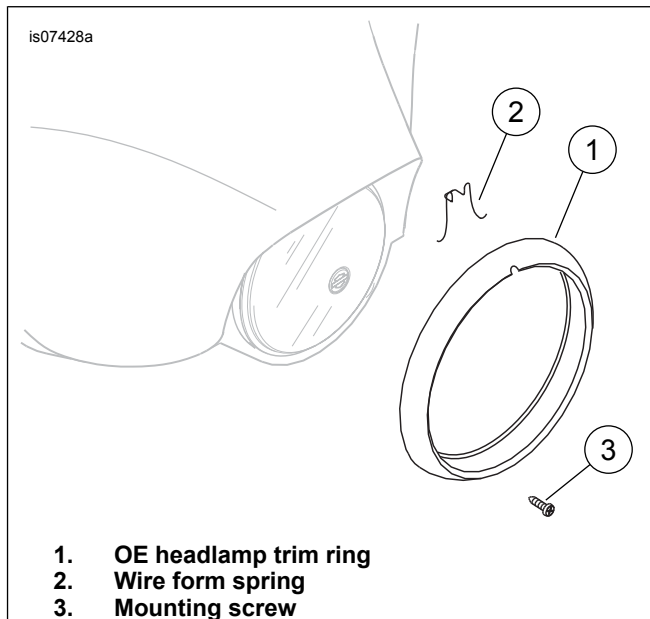
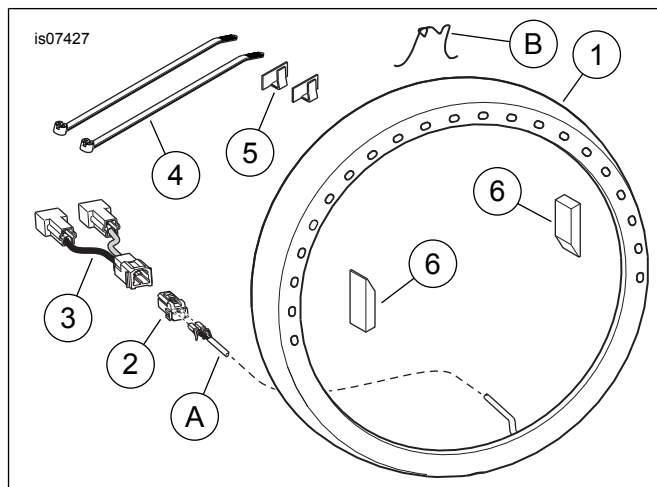

Figure 1. Remove OE Trim Ring (FLHT Shown)
Figure 3. Service Parts, Electra Glo Trim Ring Kits for Seven Inch Headlamp
1. See Figure 1. Remove the currently installed headlamp trim ring (1). Retain the mounting screw (3).
2. Remove the wire form spring (2) from the trim ring.
3. See Figure 3. Install the wire form spring (B) into the Electra Glo trim ring. The legs of the spring must engage the slots in the Electra Glo LED assembly.